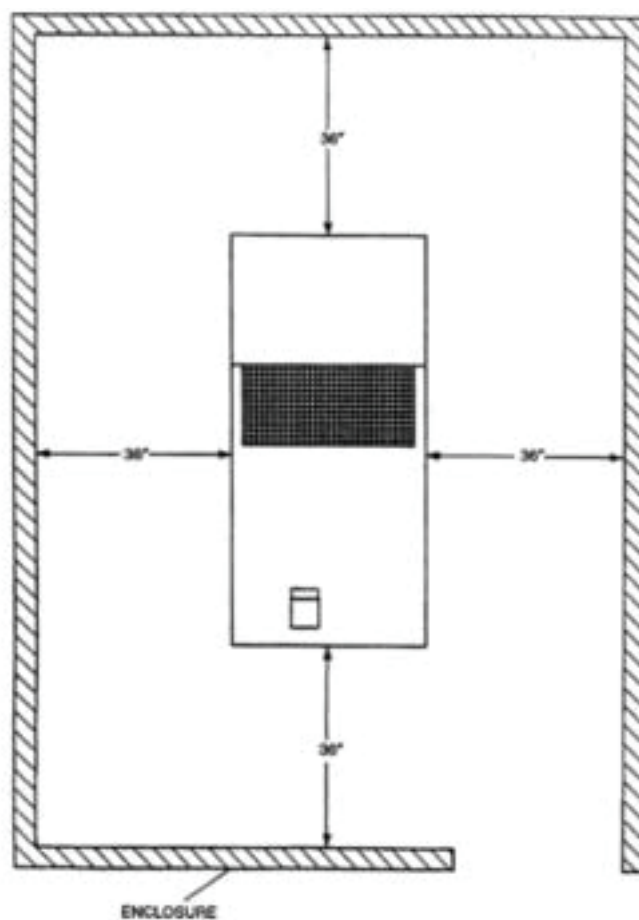

Figure 2. Minimum Enclosure Clearance Measurements.
2. Allow space on all sides for service and maintenance. Refer to Figure 2 for minimum clearance measurements.
8. Allow space on all sides for service and maintenance. Refer to Figure 2 for minimum clearance measurements.